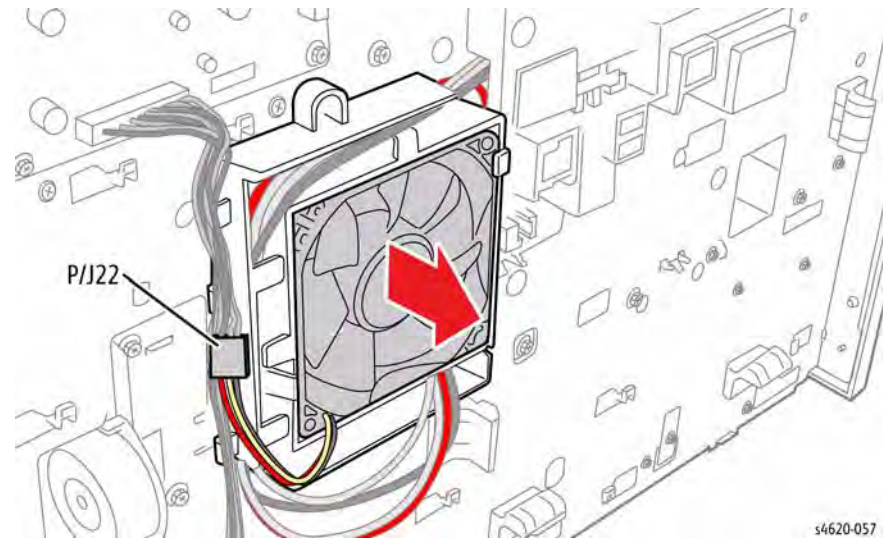

Figure 1 Remove the SMPS Fan
5. Disconnect P/J22 to remove the fan, Figure 1.